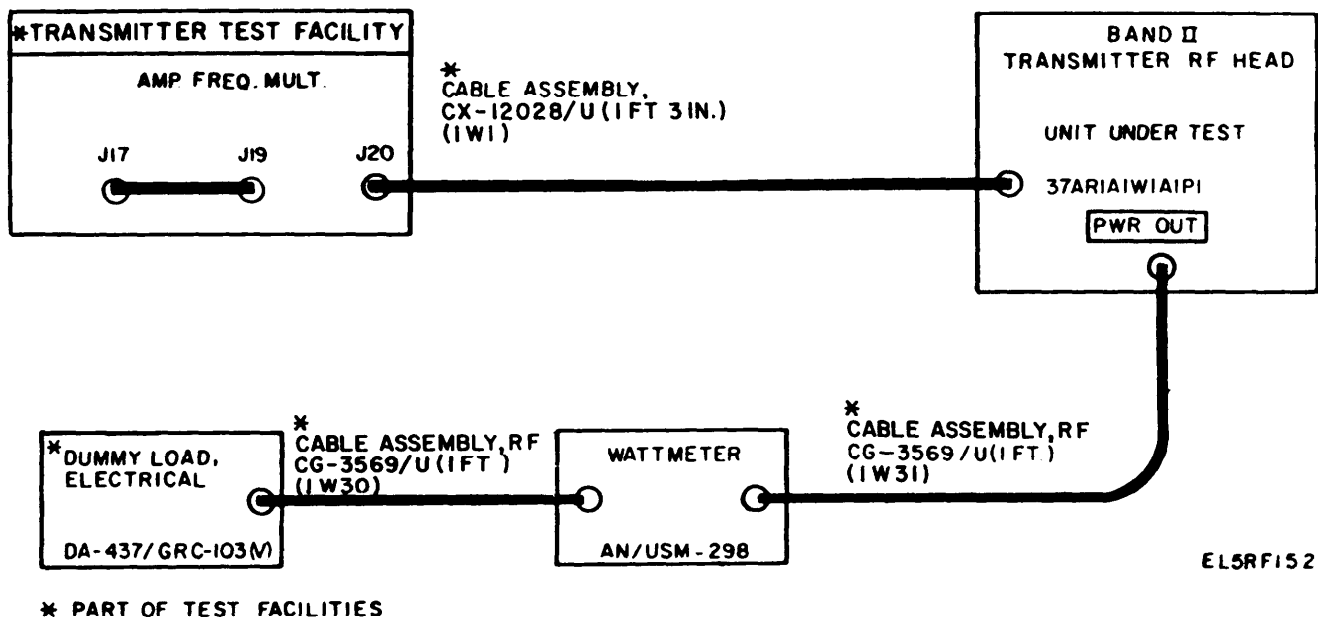

Figure 2-9. Frequency Multiplier 37A1, Alinement Check, Test Setup.
(1) Connect the equipment as shown in figure 2-9.
(2) Direct cooling air from the AIR OUTLET of the transmitter test facility to the rear of the unit under test.
(3) With the XMTR TUNE and XMTR CHANNEL controls set to channel 1010, set the test facility switches as follows:
(1) Connect control indicator plug P1 (37AR1A1W1J3) on the control panel to connector 37AR1A1W1J3 on the transmitter rf head chassis.
(2) Connect the test equipment as shown in figure 2-9.